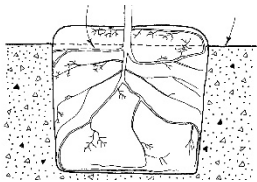
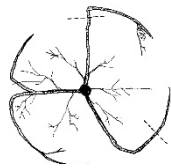

Figure 9. Remove soil and roots growing over the root collar (A) and place collar level with soil surface (B).
Figure 10. Cut roots at (A) to form new roots that grow away from the trunk. Do not cut roots at (B), since the root defects will regrow.
**Installing the tree:** Remove soil and roots from the top of the root ball to expose the root collar; cut away any roots that grow over the collar (Figure 9). Cut any roots that circle or mat along the sides and bottom of the root ball (Figure 10). The root collar shall be even with the landscape soil after planting (see Figure 9). Backfill with soil removed from the hole. Minimize air pockets by packing gently and applying water. Build a berm 4 inches tall around the root ball to help force water through the root ball. Enlarge the berm as the tree establishes.